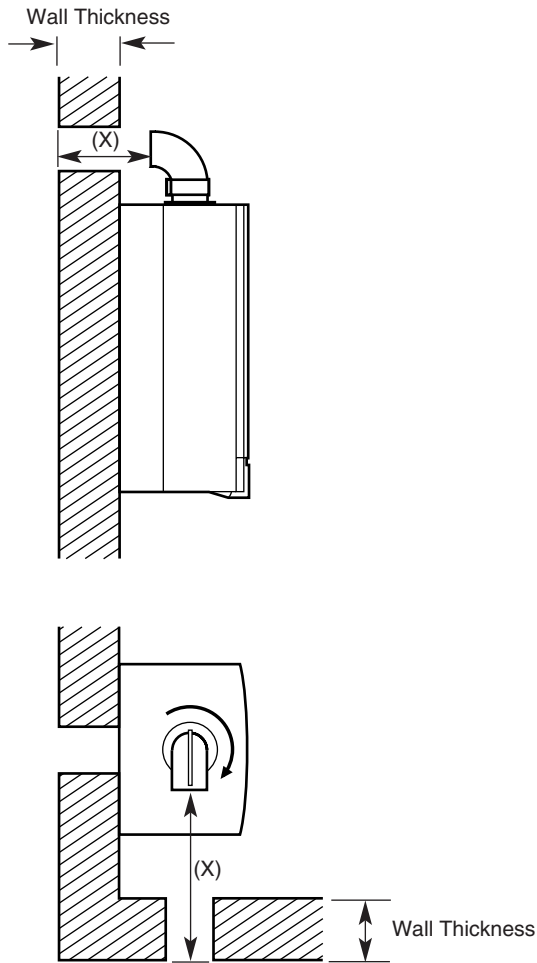

Fig. 18
3. Measure the distance from the outside wall face to the elbow (Fig. 18). This dimension will be known as 'X'.